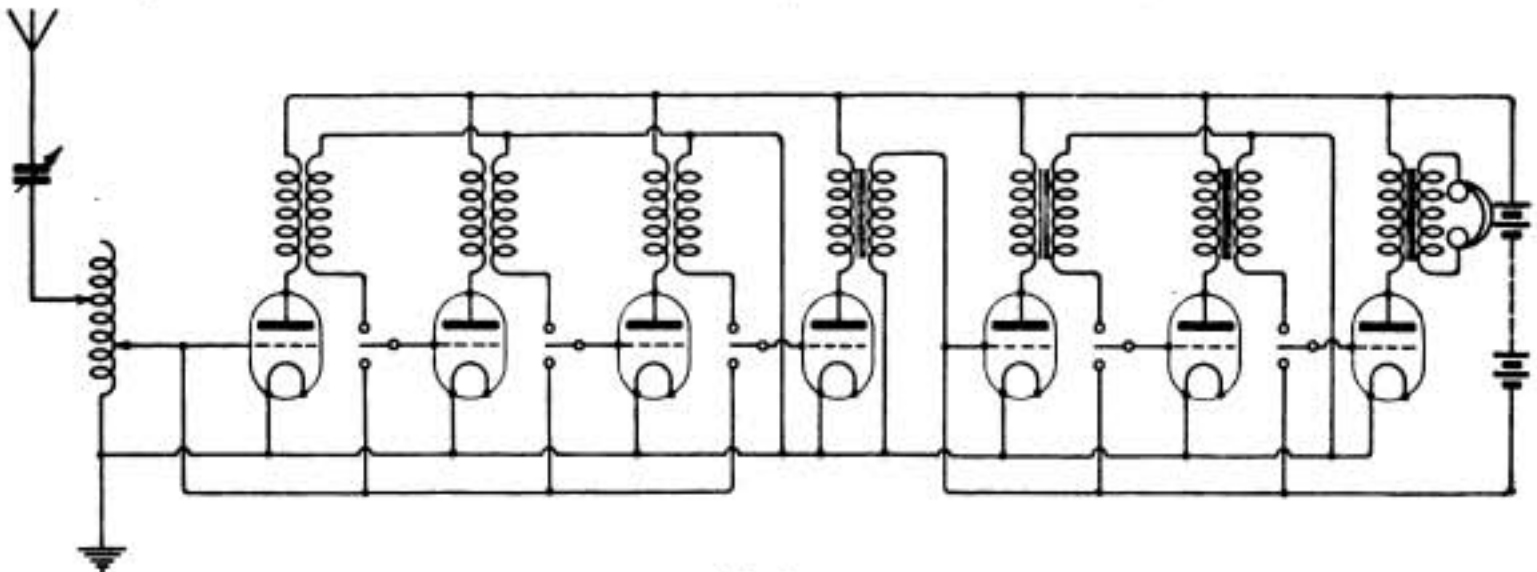

Fig. 3.
"H.O.W." (Thames Ditton).—See diagram (Fig. 3) for the set required. The telephones should be H.R., and any recognised brand of hard valve may be used.
"M.N." (Prague).—(1) The multi-wire aerial will be the better, but little advantage would be gained by the use of more than two wires. (2) The circuit of your Fig. 3 will be quite O.K. Values should be as follows:—A.T.C., 0.0015 mfd. Closed circuit condenser, 0.001 mfd. Coils—an assortment of honeycomb type, in sizes up to about 1,000 turns with a mean diameter of 2" (3) Scheme 2 would be very inefficient. Either 3 or 4 might be used—preferably 3.